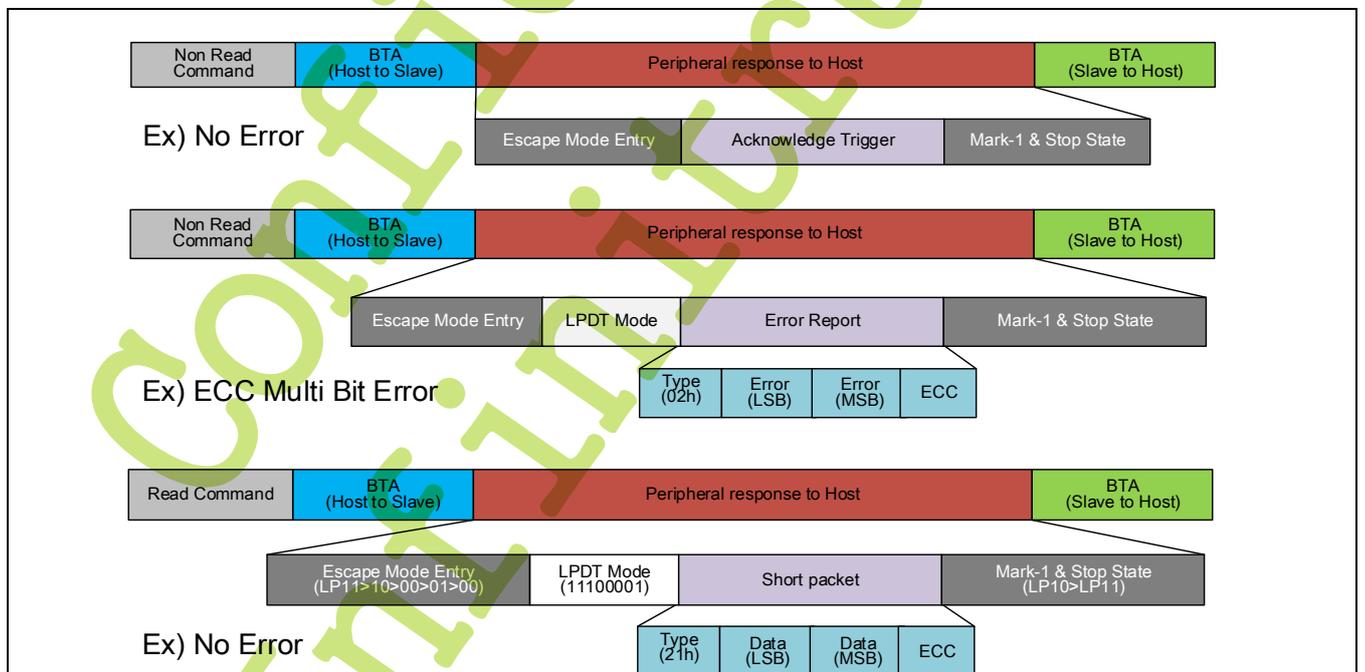

Figure 45 BTA Operation – No Error/Error after Non-Read Command
Figure 45 shows an example of BTA operations. The SLAVE get the lane controllability by BTA procedure to send the acknowledge packet on the successful data reception if there is no Error and send the acknowledge with error packet on the data reception if Error is occurred.
The first byte of any packet is the DI (Data Identifier) byte. Figure 45 shows the composition of the Data Identifier (DI) byte.